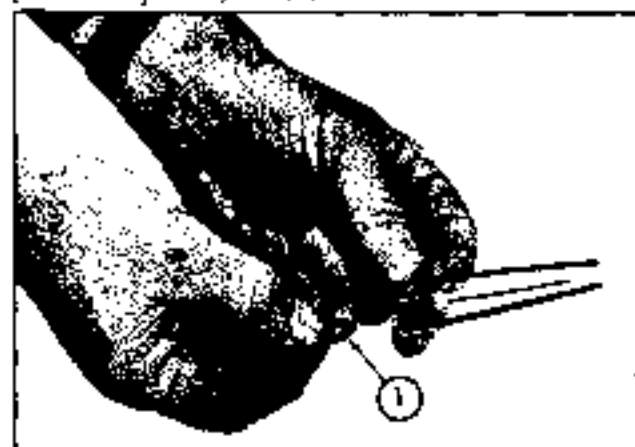

Fig. 134
d. Remove and discard valve seat from valve as shown in Fig. 134. The original seat may be turned over and reused, however, it is recommended that a new one (found in repair kit) be used.